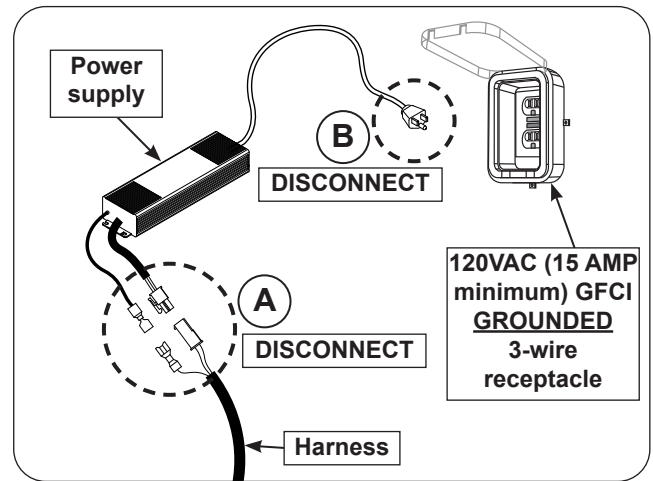

Fig. 34-1 Perform system reset
2. Disconnect the harness from the power supply (see Fig. 34-1, A).
3. Disconnect the power supply from the power source. (see Fig. 34-1, B).